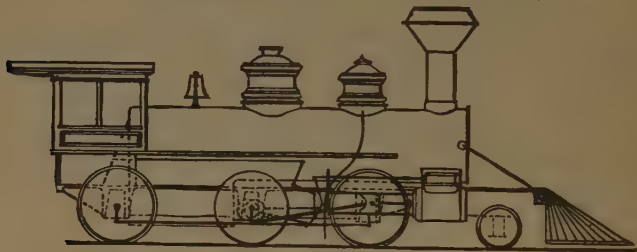

Fig. 146. Mogul Freight Engine with Tender.
A. More drivers are added, as in the Mogul, (figure 146, page 220,) in which there are three pairs of drivers and a pony or two-wheel truck, the consolidation, in which there are four pairs of drivers and a two-wheel truck, the ten-wheeler, in which there are three pairs of drivers and a four-wheel truck, the twelve-wheeler, in which there are four pairs of
drivers and a four-wheel truck, and the decapod, in which there are five pairs of drivers and a two-wheel truck. (See figures 146, 147, 148 and 149.)